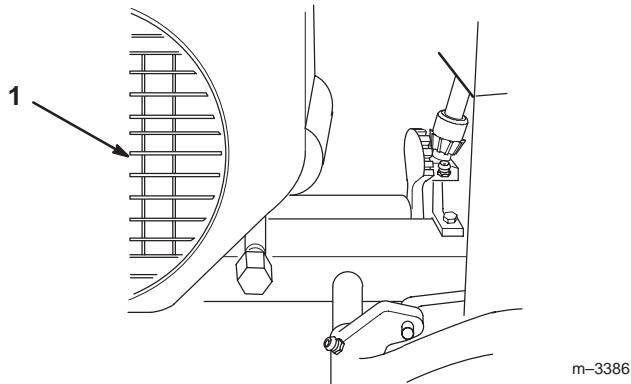

Figure 32
1. Clean off engine air intake (Fig. 32).